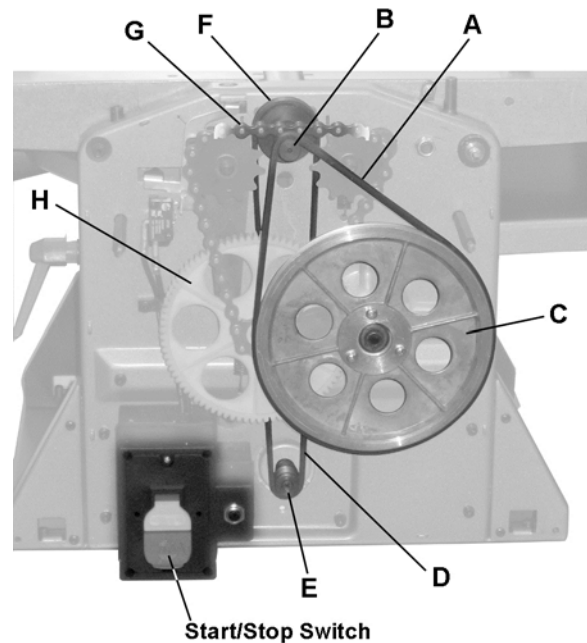

Figure 17
Refer to Figure 17 when installing or replacing the *feed-roller (A)* or *cutterhead drive (D)* belts.